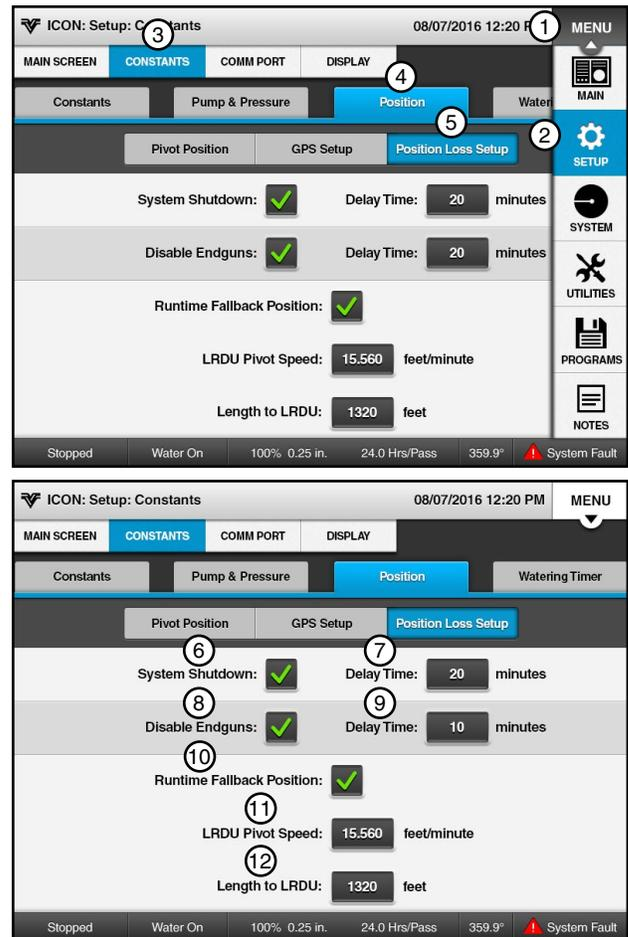

Figure 45-1
1. Check the **System Shutdown** check box. See Figure 45-1.
1. Check the **Disable Endguns** check box. See Figure 45-1.
1. Check the **Runtime Fallback Position** check box. See Figure 45-1.